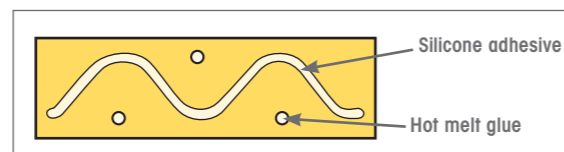

Fig. 10 Gluing MDF to underside of benchtop
- In areas where there is no base support for the site joins, please provide support (see previous section) to stop the joint dipping when being clamped together (using silicone and hot melt method Fig. 10).